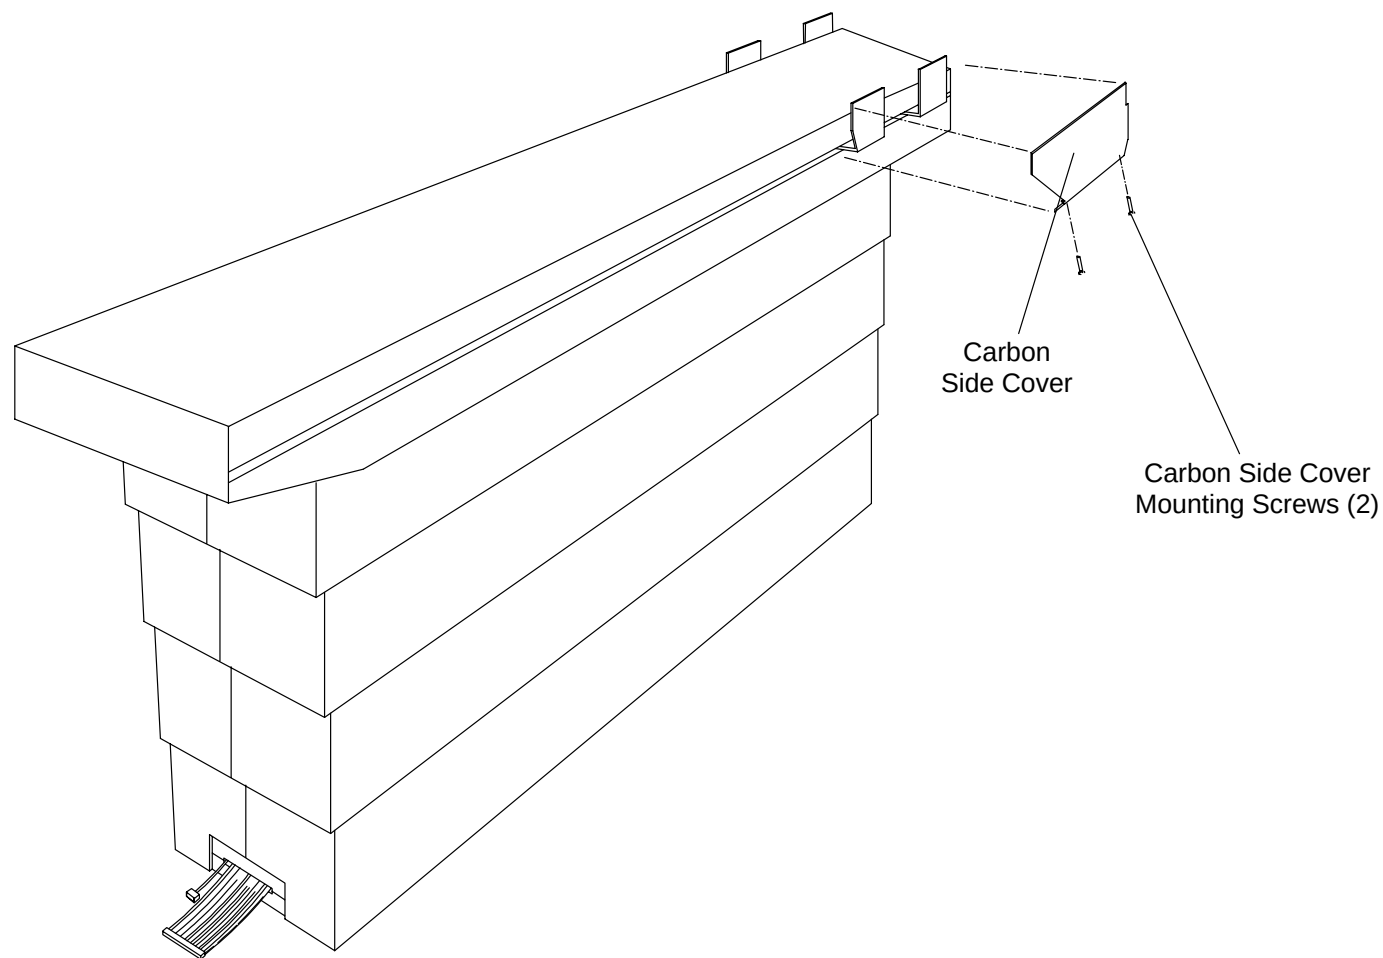

FIGURE 190 CARBON TOP SIDE COVERS
6. Tag and remove the left and right Carbon Top Side Covers. Refer to the Patient Support Covers Removal/Replacement procedure and Figure 190.